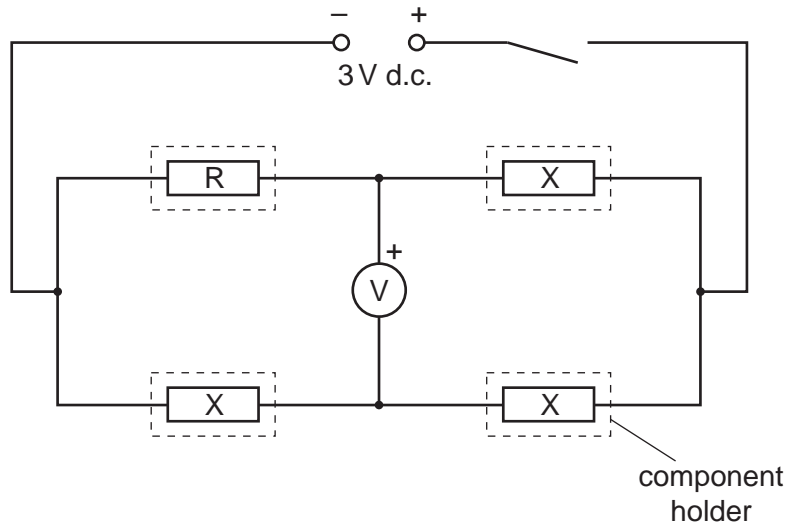

Fig. 1.1
- (a) Set up the circuit of Fig. 1.1. The resistor  $R$  should have a resistance  $R$  where  $R = 2.2\text{k}\Omega$ .